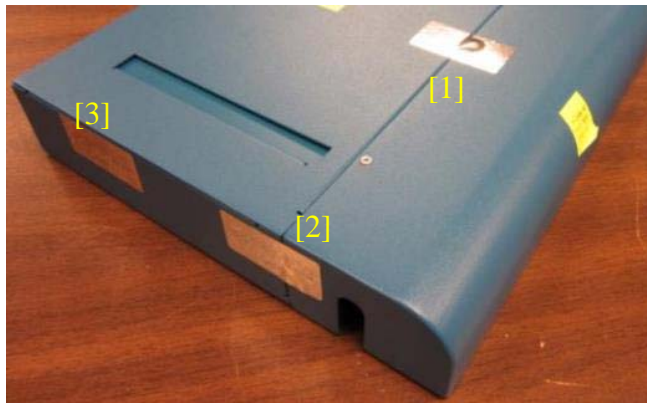
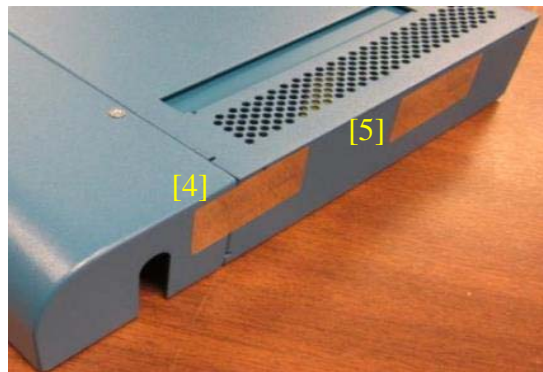

Figure 27 - PA-200 Left Side and Top Tamper Seal Placement (3)
Figure 28 - PA-200 Right Side Tamper Seal Placement (2)
Refer to Appendix A for instructions on installation of the tamper seals and opacity shields. The locations of the five (5) tamper-evident seals implemented on the PA-200 are shown in Figure 27 through Figure 28